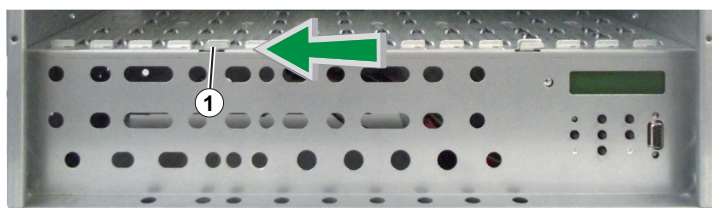

Fig. 2
- Open the locking device ① in the direction of the arrow (fig. 2).